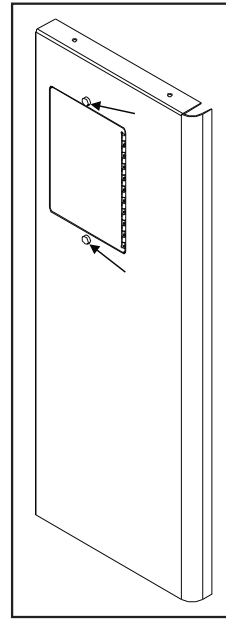

Figure 30: Right Panel - Front.
Place the circuit board control panel on the backside of the right surround panel so the hinge is on the outside and the top and bottom holes on the control panel line up with those on the surround. Attach using two (2) T-20 screws through the front of the surround into the circuit board control panel (see Figure 30).